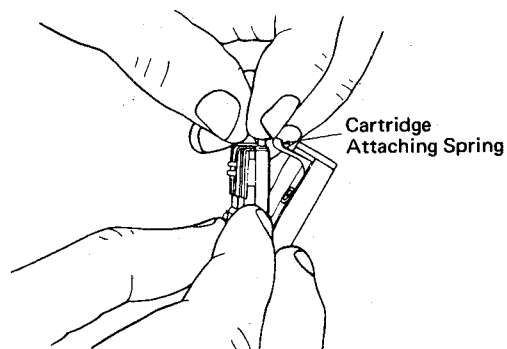

Fig. 25 REPLACING CARTRIDGE
3. Gently remove Cartridge by spreading the Cartridge Holder spring as shown in Fig. 25.